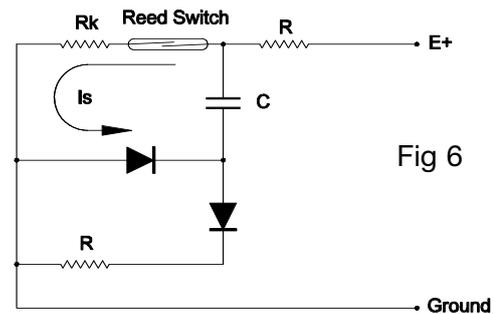

Fig 6
High and instantaneous current discharge from capacitors can damage reed switch contacts. Fig 6 sets out a typical circuit in which a capacitor (C) discharges directly across a reed switch. A surge current (I_s) flows in the circuit, and unless limited by resistor (R_k), may cause damage to the reed switch contacts. The value of the resistor R_k in ohms should equal the voltage across the capacitor divided by the current (I_s), where (I_s) is <100mA.